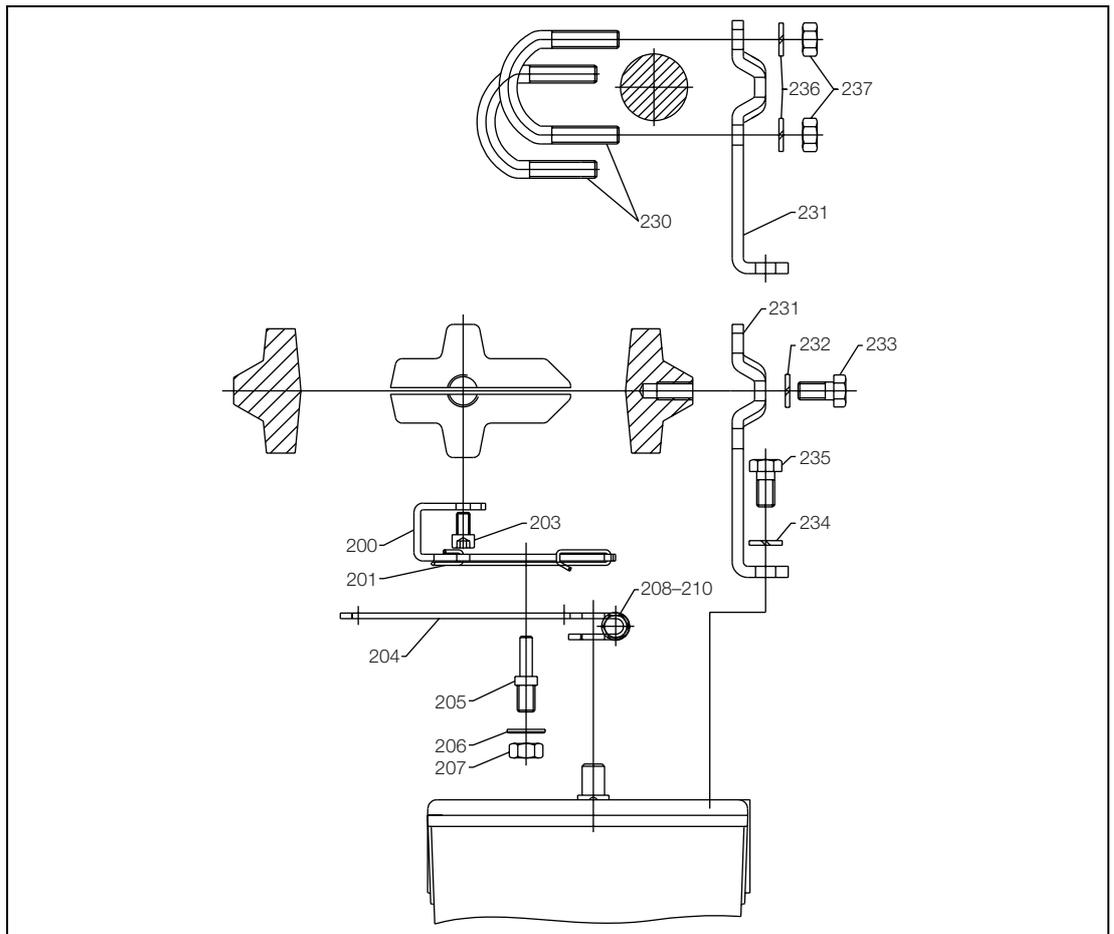
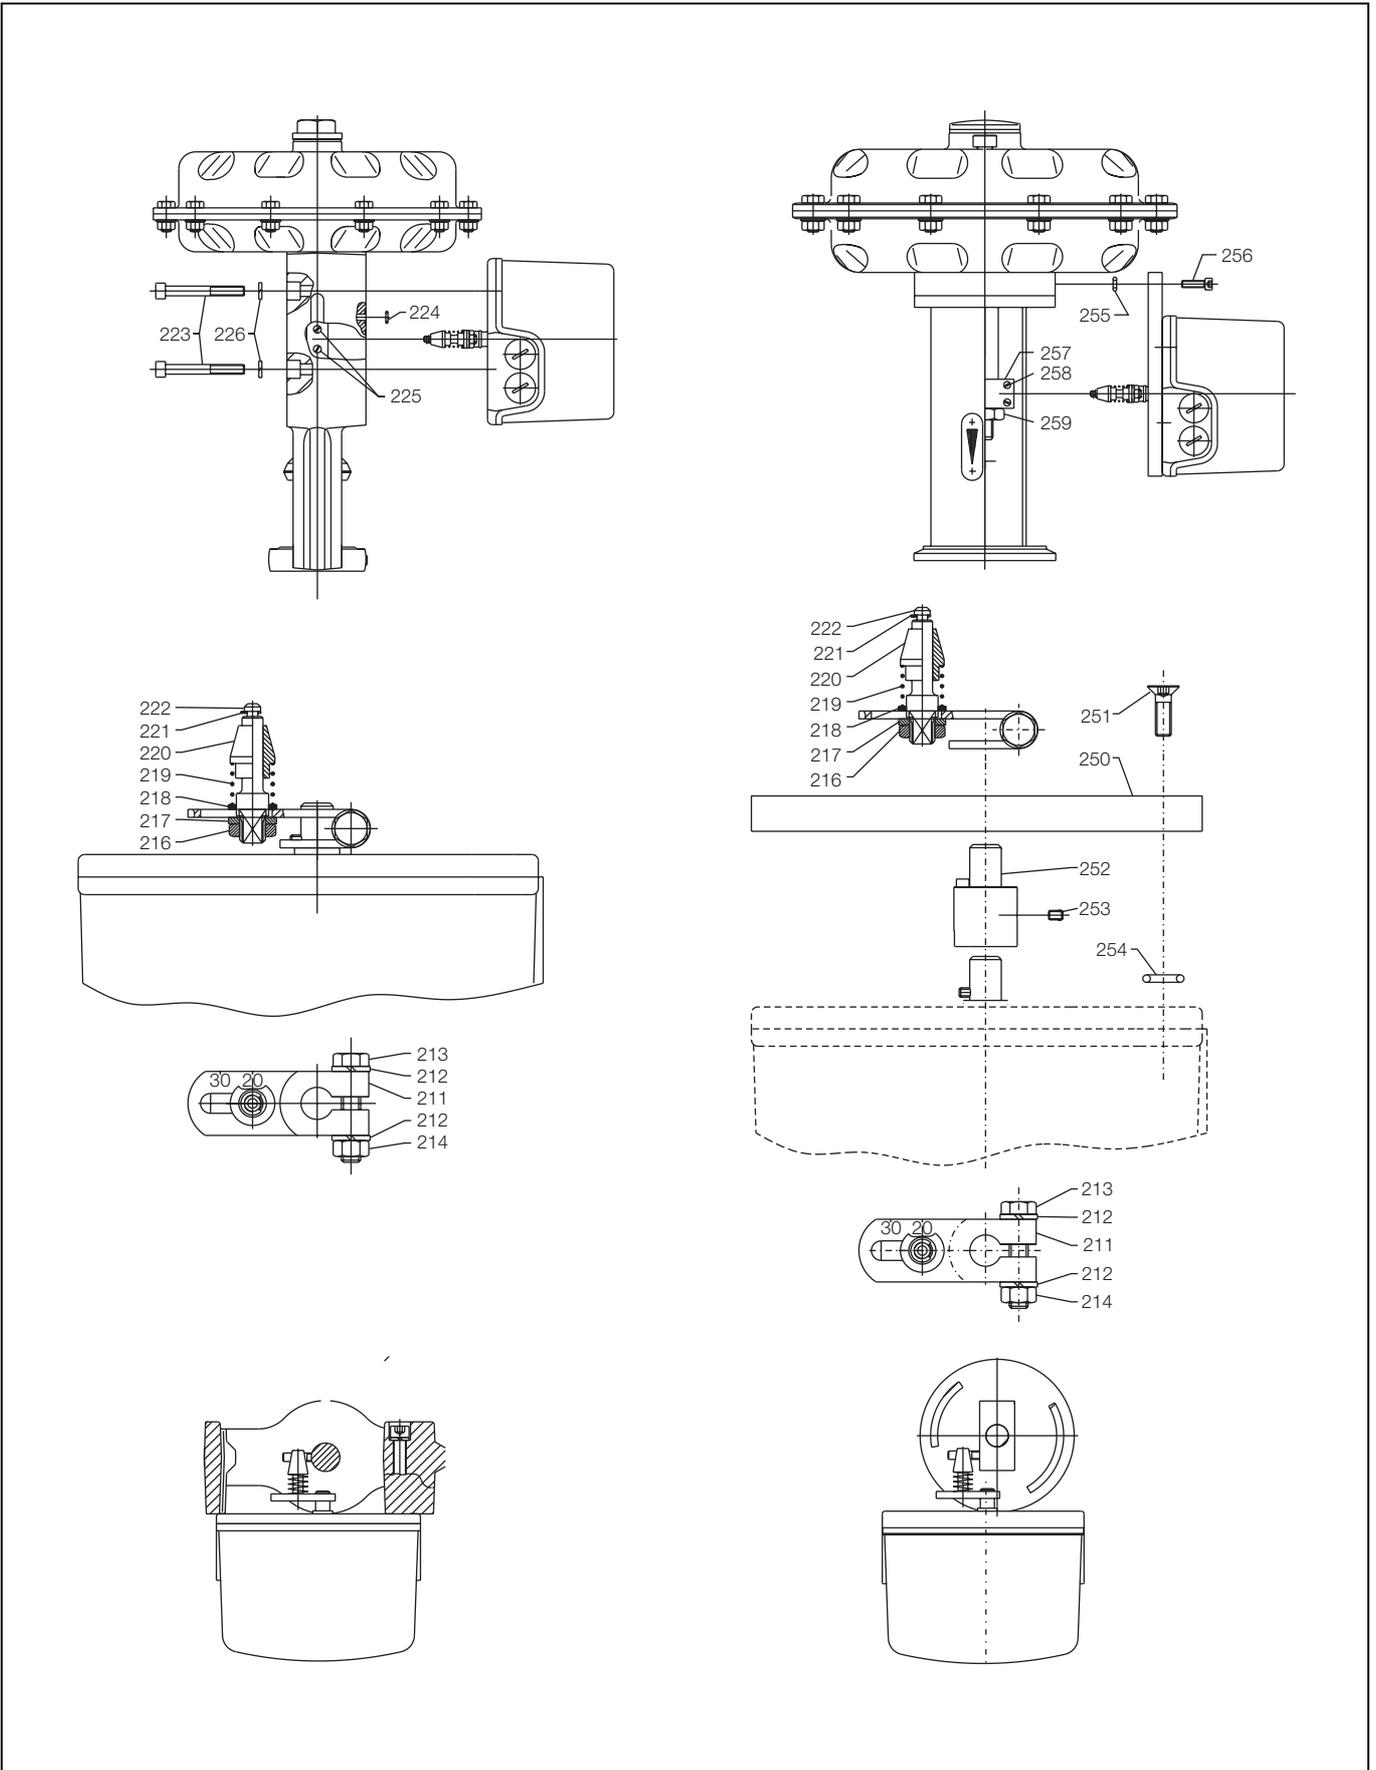

Fig. 2:
Fig. 5:
A special attachment kit is necessary for mounting the positioner to linear actuators (see Fig. 2).
The actuators of the control valves 23/24, 23/25 and 23/26 are ready for special attachment of 23/57 positioners (see Fig. 5 for control valves 23/24 and 23/25 and Fig. 5 for control valves 23/26). The benefits of this design are that, on one hand, the point for mechanical stroke measurement is inside the yoke and, thus, protected by it, and, on the other hand, no external tubing is required, since the air flow from the positioner to the actuator is guided through an internal channel bore. For internal air duct purposes, remove the screw plug (53) from the back side of the positioner and close the lateral connection (A 36) in a pressure-proof way using a plug (see Fig. 5). The common external piping is dropped, i.e. it is only necessary in special cases, in particular for the control valves 23/24 and 23/25 with the effective direction "air to close/spring force to open" (see data in chapter 3.5.1)
A rough pre-adjustment is achieved by positioning the bolt (Item 205 in Fig. 2) or follower pin (Items 216-222 in Fig. 5) accordingly in the lever slot (Item 204 Fig. 2 or Item 211 in Fig. 5) when attaching the positioner to the actuator. A scale on the lever facilitates the adjustment. The following is valid for the rough adjustment: